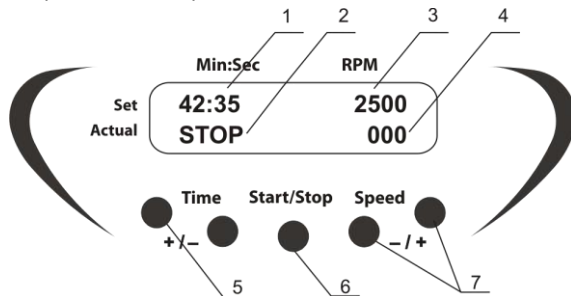

Figure 1. Control panel
- Use the **+** and **- Speed** keys (Fig. 1/7) to set the required speed (increment - 100 rpm). Holding down the key for longer than 2 s increases value change speed. The set value is displayed in the upper line of the display (Fig. 1/3).
- Use the **+** and **- Time** keys (Fig. 1/5) to set the required working time interval in min & sec (increment - 1 min). Holding down the key for longer than 2 s increases value change speed. The set value is displayed in the upper line of the display (Fig. 1/1).
- Press the **Start/Stop** key (Fig. 1/6). The platform will start vortexing and the timer indicator will start counting up the time interval in the lower line of the display - **Actual** (fig.1/2).
- If the working time is not set (or is reset) and the display shows 00:00, pressing the **Start/Stop** key will cause the unit to operate continuously until the **Start/Stop** key is pressed. Actual value of the platform speed is displayed in the lower line of the display (fig.1/4)
- After finishing of the program (after the set time elapses) the platform motion will stop and flashing reading "STOP" will appear in the lower line of the display accompanied by the repetitive sound signal until the **Start/Stop** (fig.1/7) key is pressed.